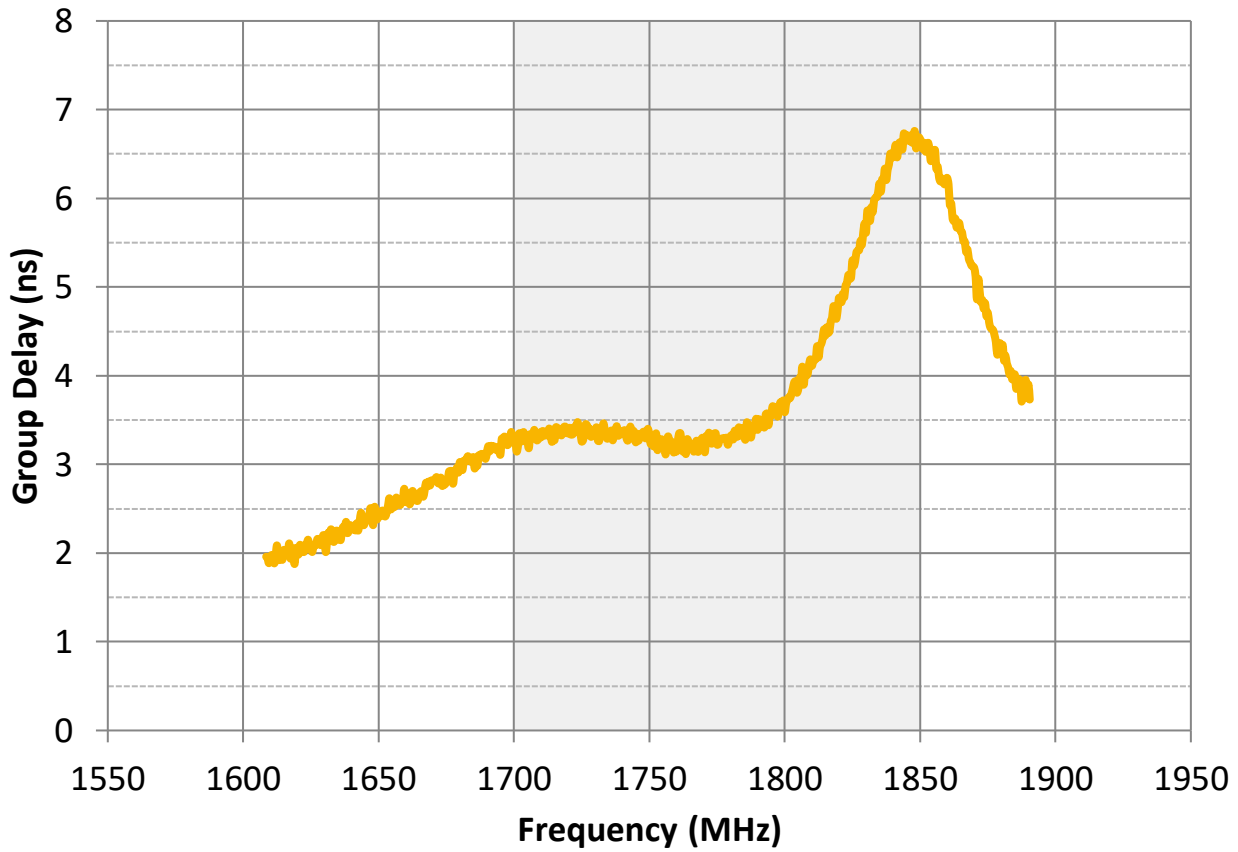

Figure 2. Group Delay vs Frequency
- 3 List of Figures 2
- Figure 2. Group Delay vs Frequency 7